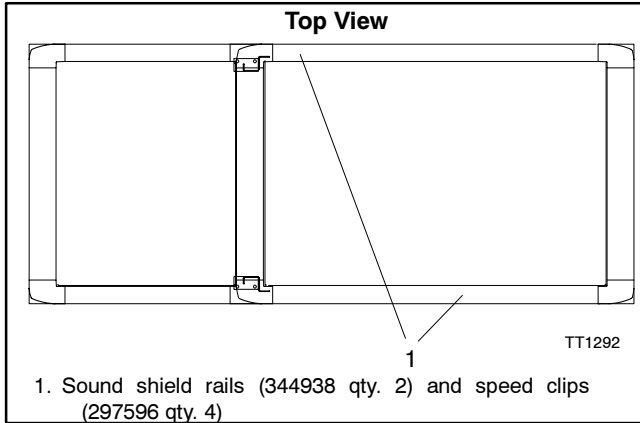

Figure 13 Rail Framework
8.7 See Figure 13. Attach the sound shield rails (344938 qty. 2) and speed clips (297596 qty. 4).